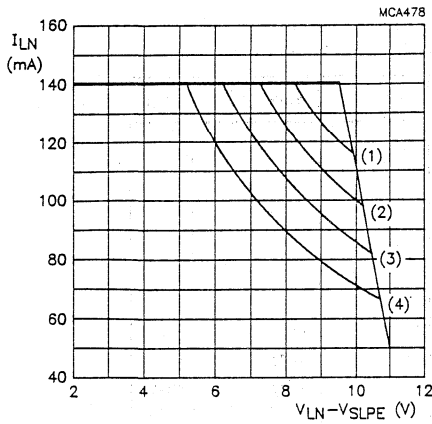

Fig. 20 TEA1064A safe operating area.
- (1) Mostly dependent on the maximum required  $T_{amb}$  and on the voltage between LN and SLPE. See Figs 20 and 21 to determine the current as a function of the required voltage and the temperature.
- (2) Calculated for the maximum ambient temperature specified  $T_{amb} = 75 \text{ °C}$  and a maximum junction temperature of  $125 \text{ °C}$ .